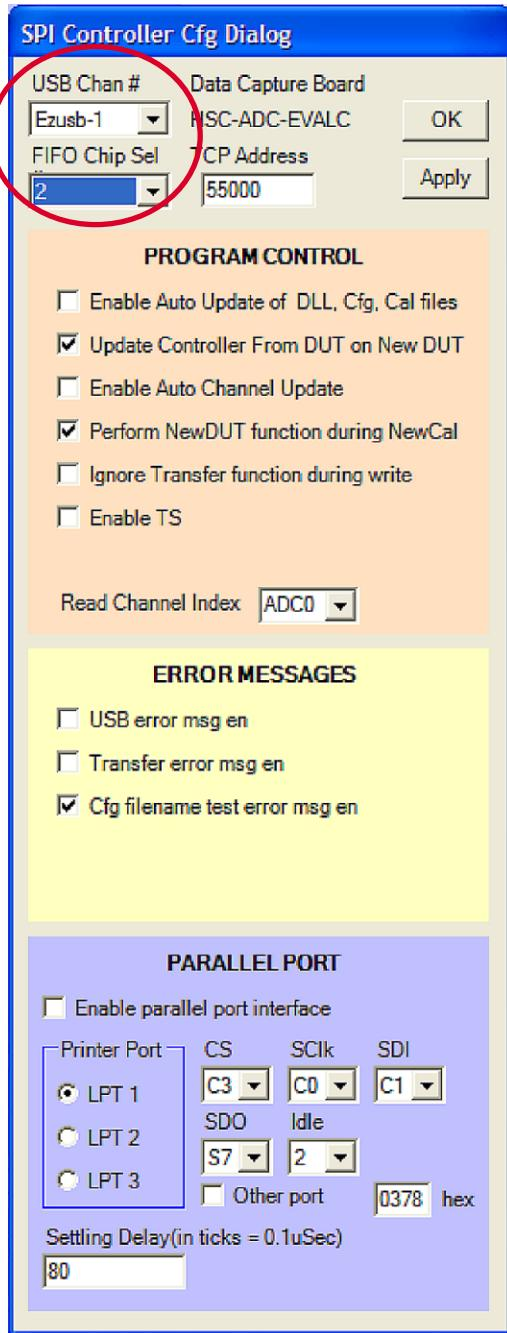

Figure 10. AD9516 SPIController
3. Select Config and then Controller Dialog. In the AD9516 SPI Controller Cfg Dialog window, make sure that FIFO Chip Sel is set to 2 and that USB Chan # is set to the same value as in the AD9267 SPIController (see Figure 10).